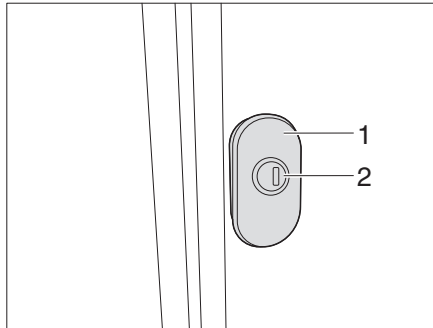
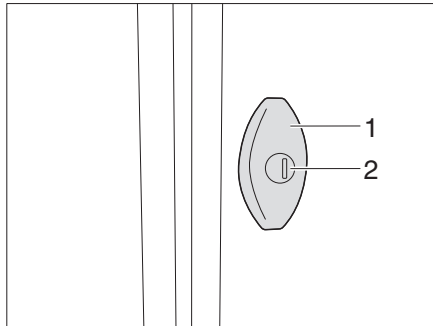

Fig. 29 Turnbuckle lock (variant 1)
Fig. 30 Turnbuckle lock (variant 2)
- Insert the key into the lock cylinder (Fig. 29,2/ Fig. 30,2) and turn a quarter turn. The flap lock is unlatched.
- Pull on the turnbuckle lock (Fig. 29,1/ Fig. 30,1) and rotate anticlockwise through 180°. The external flap is open.
- Turn the cam lock (Fig. 29,1/ Fig. 30,1) clockwise by 180°. The flap is pulled onto the seal.
- Insert the key into the lock cylinder (Fig. 29,2/ Fig. 30,2) and turn a quarter turn.
- For variant 1: Push in the locking cylinder (Fig. 29,2) until it engages. The flap lock is locked.